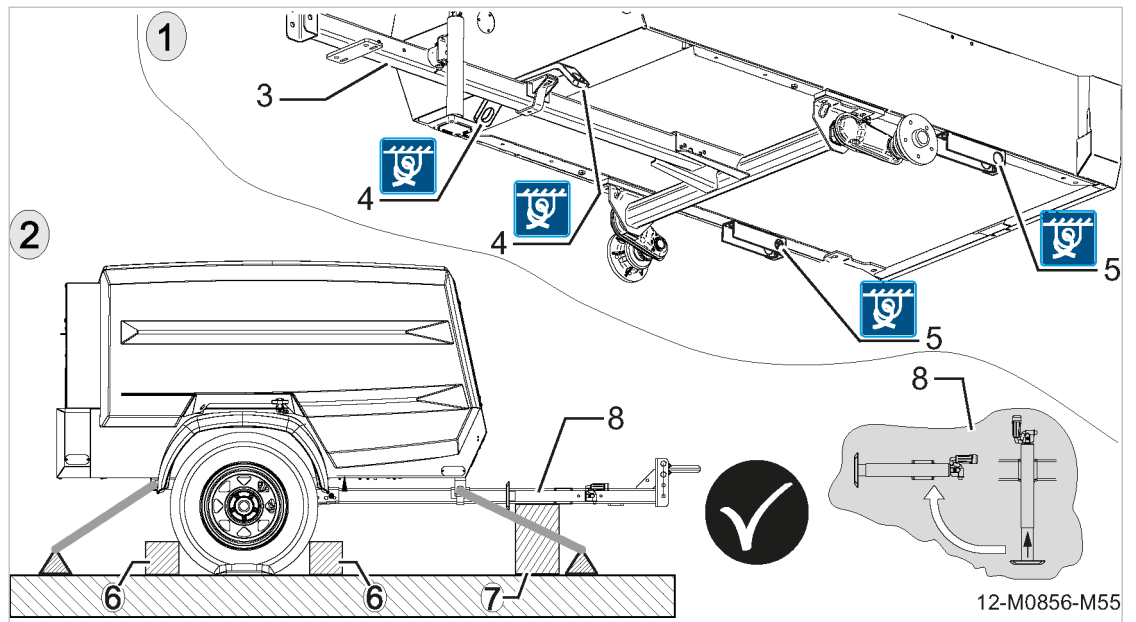

Fig. 76 Example: proper load securing via lashing points provided
- Secure portable machines only via the lashing points provided, see Fig. 76.